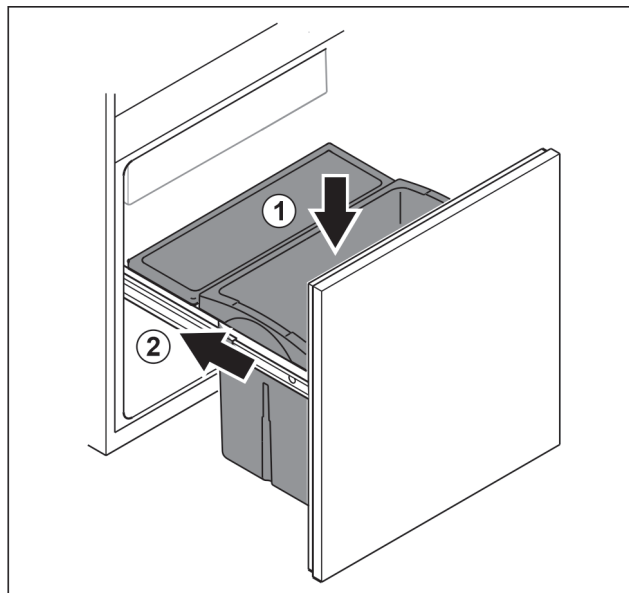

Fig. 102
- ▶ Insert drawer from above. Fig. 102 (1)
- ▶ Slide in pull-out unit. Fig. 102 (2)